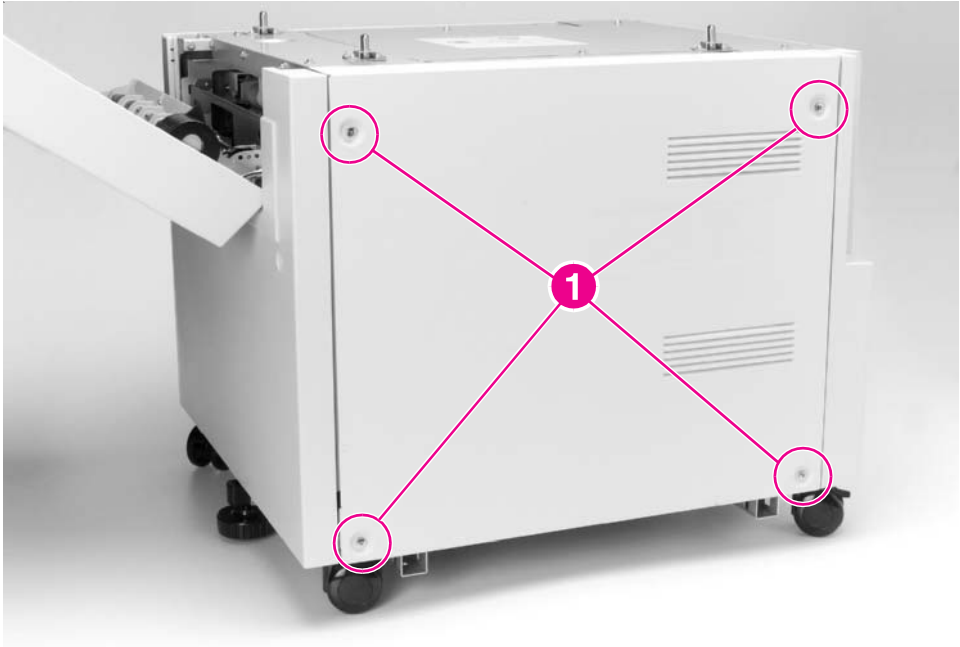
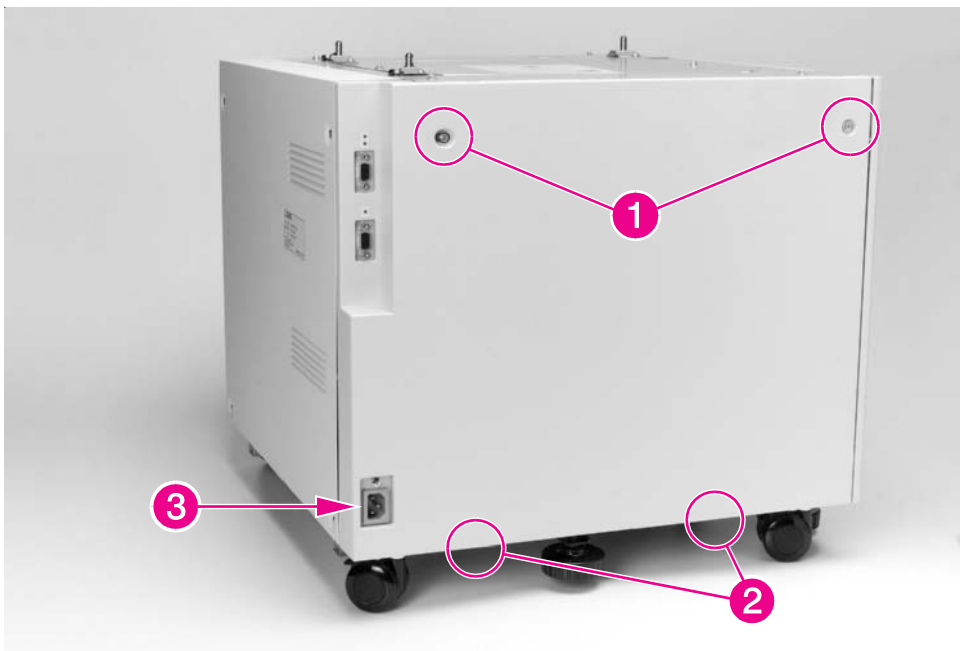
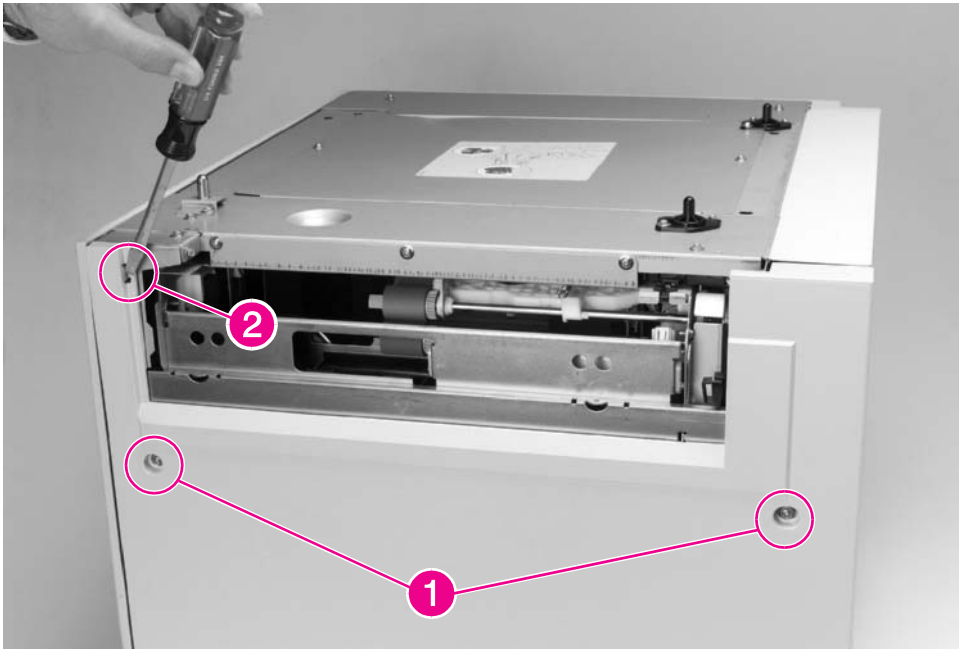

Figure 6-63 2000-sheet Input Tray Back Cover
Figure 6-64 2000-sheet Input Tray Left Cover
Figure 6-65 2000-sheet Input Tray Right Cover
- 2 Remove the 4 screws that secure the Back Cover of the 2000-sheet Input Tray to the chassis: 1 screw on each corner (figure 6-63, callout 1).
- 2 Remove the 2 screws that are located at the top of the 2000-sheet Input Tray's Left Cover: 1 screw near each corner (figure 6-64, callout 1).
- 2 Remove the 2 screws that are located near the middle of the 2000-sheet Input Tray's Right Cover: 1 screw on each side (figure 6-65, callout 1).
- 3 Using a flat-blade screwdriver, release the plastic retaining tab that secures the Right Cover's upper-left corner to the chassis (figure 6-65, callout 2).
- 1 Remove the Back Cover from the 2000-sheet Input Tray (see figure 6-63).
- 3 Remove the Left and Right Covers from the 2000-sheet Input Tray (see figure 6-64 and figure 6-65).
- 1** Remove the Back Cover from the 2000-sheet Input Tray (see figure 6-63).
- 1 Remove the Back and Left Covers from the 2000-sheet Input Tray (see figure 6-63 and figure 6-64).
- 2 Remove the Right Cover from the 2000-sheet Input Tray (see figure 6-65).